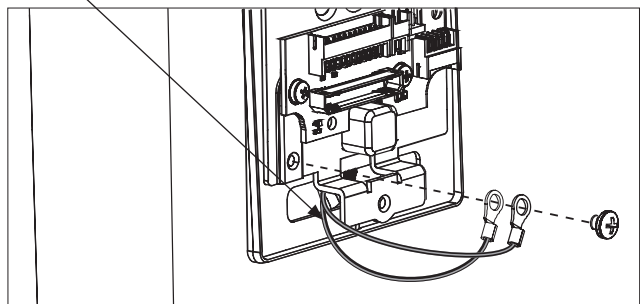

Figure 11-2B
2. Insert and partially tighten two (2) through-bolts prior to installation of connectors.
3. Secure ground lug(s) with #6-32 machine screw (Figure 11-2B)